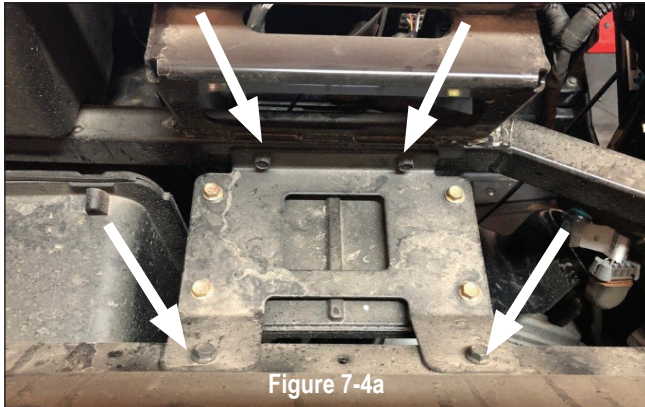
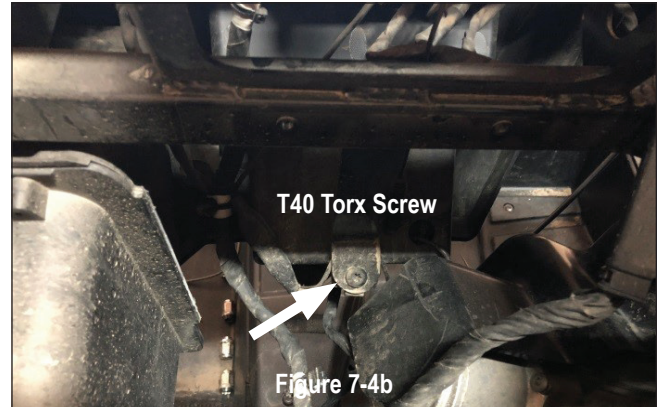

Figure 7-4a
Figure 7-4b
If no Ride Command, Dynamix ECU or OEM installed amplifier are present, proceed to removing lower pocket. If you have the Dynamix ECU or OEM installed amplifier, remove (4) 10mm bolts holding the bracket as shown in Figure 7-4a. Move the ECU and/or OEM amplifier to the side leaving wire connections intact. Lower pocket removal is (1) T40 screw on the pocket support bracket as shown in Figure 7-4b.